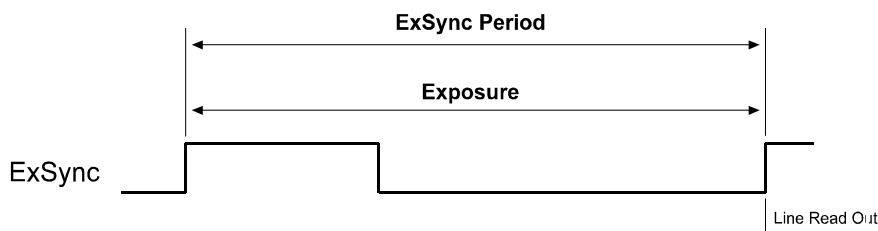

Figure 3-3: ExSync, Edge-Controlled Mode
- In **ExSync, edge-controlled** mode, the pixels are exposed and charge is accumulated over the full period of the ExSync signal (rising edge to rising edge). The falling edge of the ExSync signal is irrelevant. The actual start of exposure is 1.76 μs later than the rise of the ExSync signal. The line is read out and transferred on the rising edge of ExSync. (see Figure 3-3.)